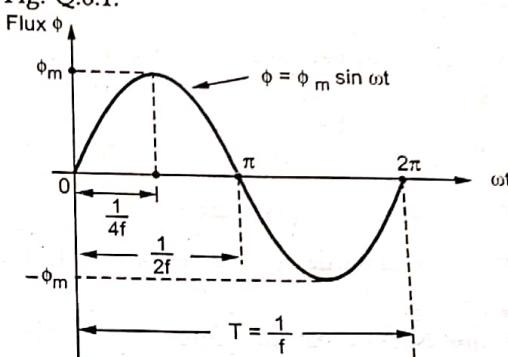

Fig. Q.6.1 Sinusoidal flux
- The maximum value of this flux is  $\phi_m$  as shown in the Fig. Q.6.1.
- Consider the  $1/4^{\text{th}}$  cycle of the flux as shown in the Fig. Q.6.1. Complete cycle gets completed in  $1/f$  seconds. In  $1/4^{\text{th}}$  time period, the change in flux is from 0 to  $\phi_m$ .